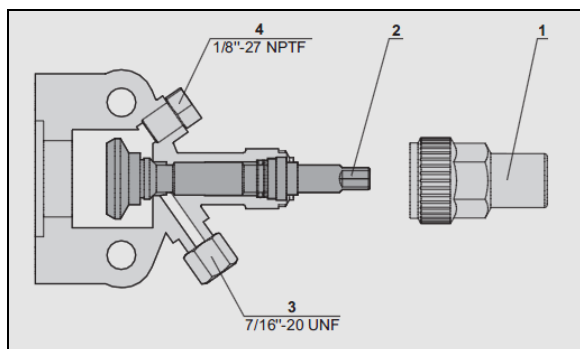

FIGURE 95: COMPRESSOR SHUT-OFF VALVE BACKSEATED POSITION (NORMAL OPERATING POSITION)
4. Backseat the compressor suction shutoff valve (FIGURE 95).
13. Shut down engine and backseat suction and discharge shutoff valves (FIGURE 95).
2. Backseat (stem out) the two compressor shutoff valves (FIGURE 95).
3. Install A/C pressure gauges at the compressor shutoff valves service ports (item 4, FIGURE 95).